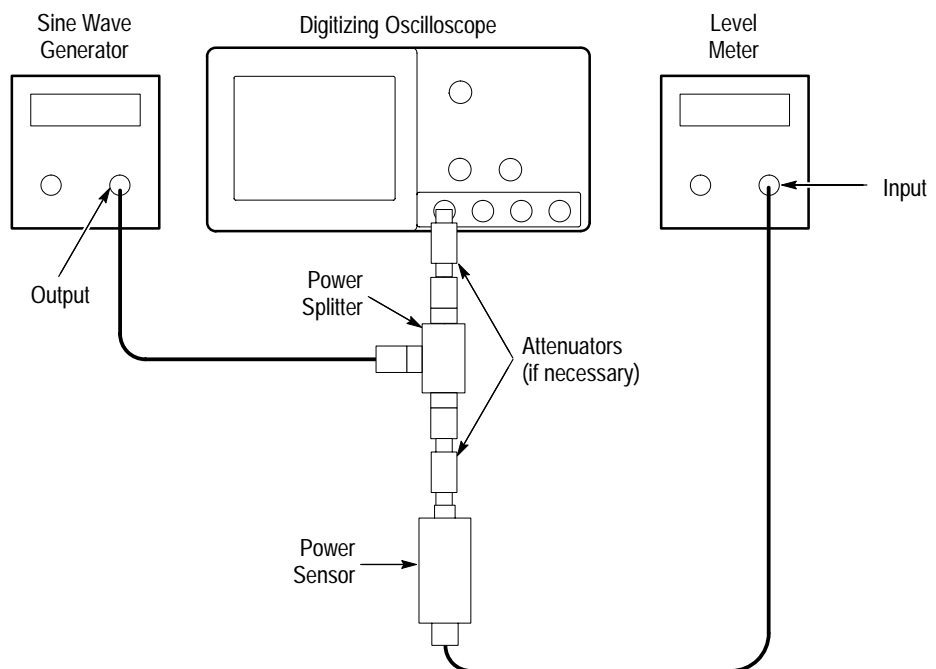

Figure 1–23: Sine Wave Generator Leveling Equipment Setup
1. *Install the test hookup:* Connect the equipment as shown in Figure 1–23.